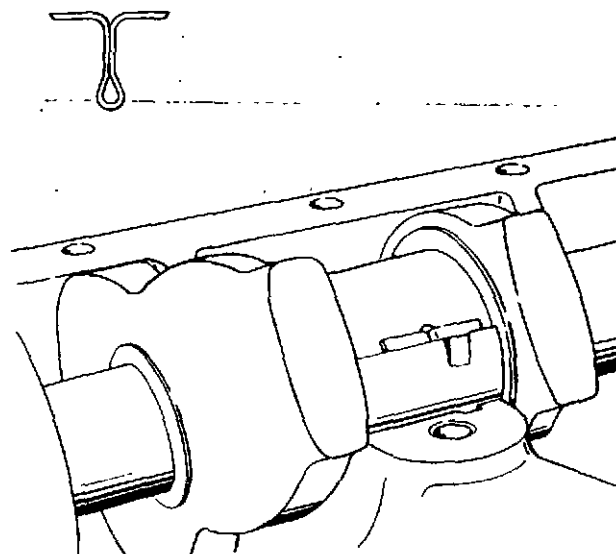

Figure 5-39. Upper Main Bearing Removal and Installation
8. To remove the upper main bearings (23, 24, 25, and 26, figure 5-31) without removing the crankshaft, insert a small tee-shaped pin in the crankshaft oil hole. Rotate the crankshaft (22) so that the pin will push the upper main bearing out, as shown in figure 5-39. If the crankshaft is to be removed, remove the upper bearings after removing the crankshaft.
The upper main bearings can be installed with the crankshaft in place. Install a small tee-shaped pin into the crankshaft oil hole. After starting the bearing into place, rotate the crankshaft to seat it on the cylinder block, as shown in figure 5-39.